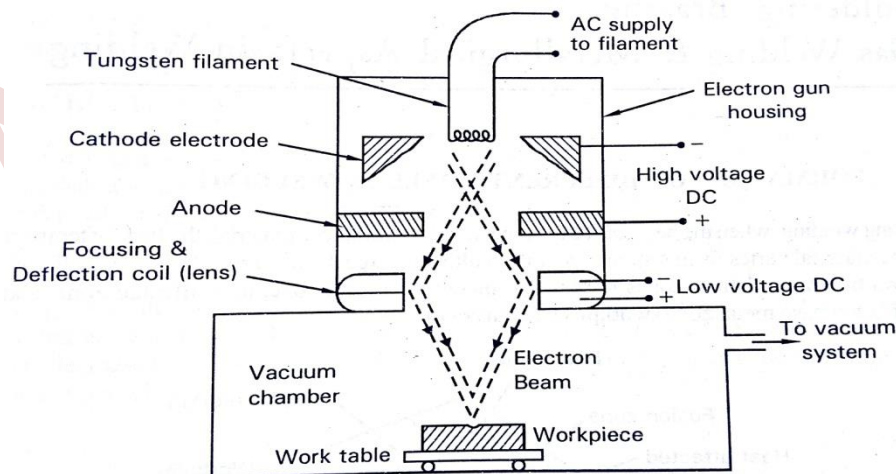

Figure 4.15 Electron beam welding
- Fig. 4.15 shows the details of Electron Beam Welding